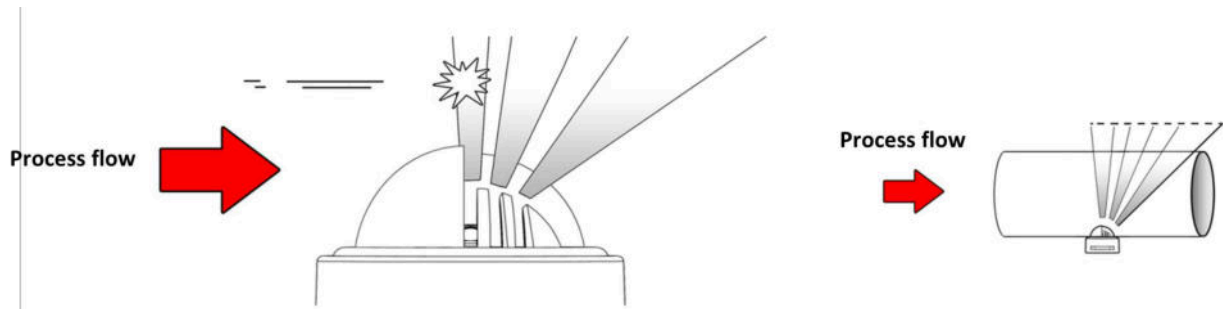

Figure 17 FGR detector facing into the process flow
See the Installation Description (ID) with the following addition. The Reinforced Food Grade (FGR) detector, EDH-x2xxxxxx, must be installed with the protective baffle facing straight into the process flow and the exposed side of the lens away from the process flow, see *Figure 17*.